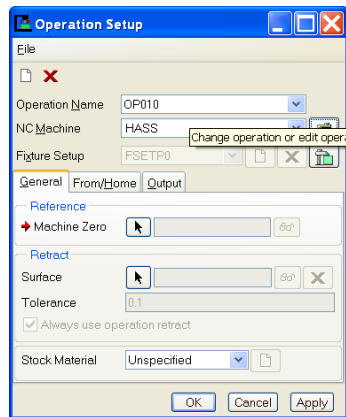
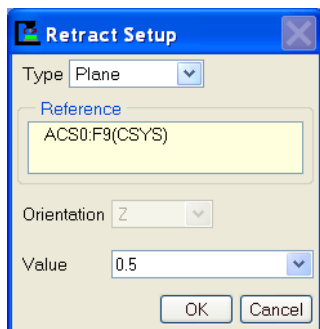
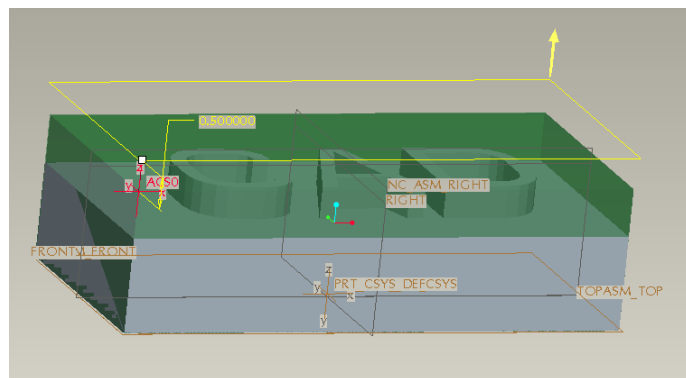

Figure 1.25
Figure 1.28
Figure 1.29 Defining the Retract Surface
4. Steps → Operation. Operation Setup window pops up automatically as shown in Figure 1.25.
5. Define NC machine. Click NC machine icon  in Figure 1.25, Machine Tool Setup windows pop up as shown in Figure 1.26. Enter the parameters as shown below
6. Define Machine Zero. Click Reference Machine Zero icon  in Figure 1.25. Select the coordinate system ACS0 just created.
7. Define retract plane. Click Retract Surface icon  in Figure 1.25. Retract Setup window pops up (Figure 1.28). Enter 0.5, click OK to close the window. The retract plane is shown in Figure 1.29.